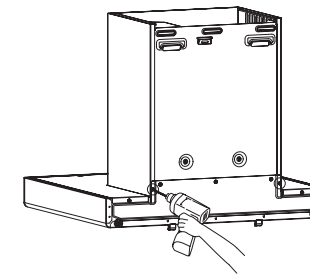

Fig.8
2. Remove the fan cover and decorative hood (only for EMG6018-CI/EMG6018-CW): remove the 2 screws that fix the fan cover behind the main body with a screwdriver(see Fig.8), and then grab the fan cover and decorative hood with both hands to take them out upward(see Fig.9);